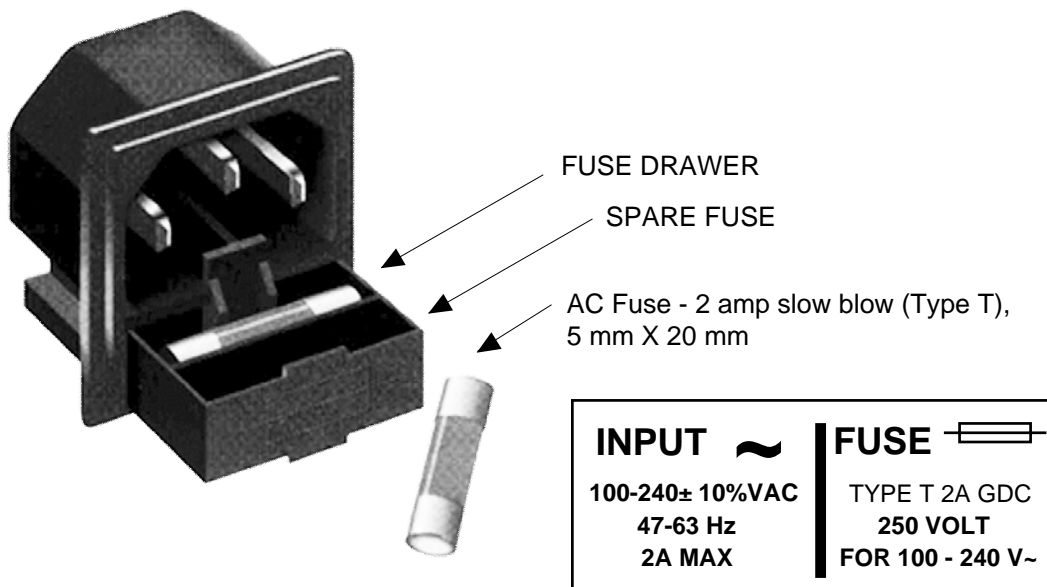

FIGURE 2.3 Fuse Location and Spare Fuse
9. AC Fuse - The fuse is a 5 mm X 20 mm, 2 amp slow blow (Type T) and is inserted in the far slot in the drawer below the AC input as shown in Figure 2.3. There is a spare fuse in the near slot. If a fuse continues to open, the power supply is most likely defective.